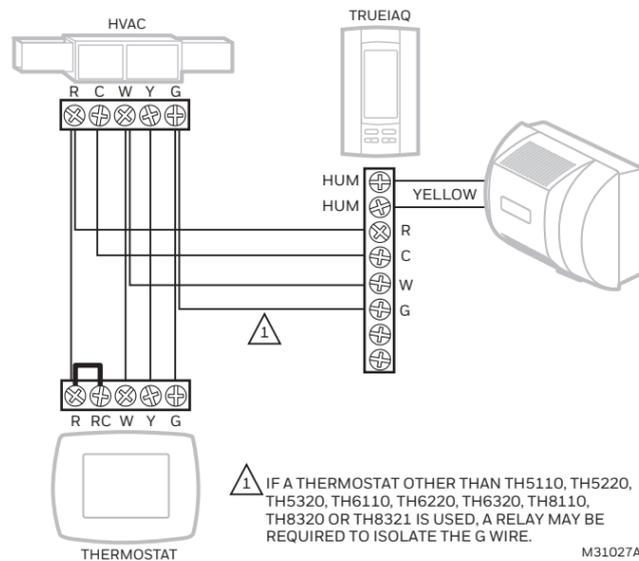

Fig. 8. Typical wiring diagram for humidifier using TruelAQ.
15. Connect the humidifier to the two HUM terminals on the H1008A as shown in Fig. 8.